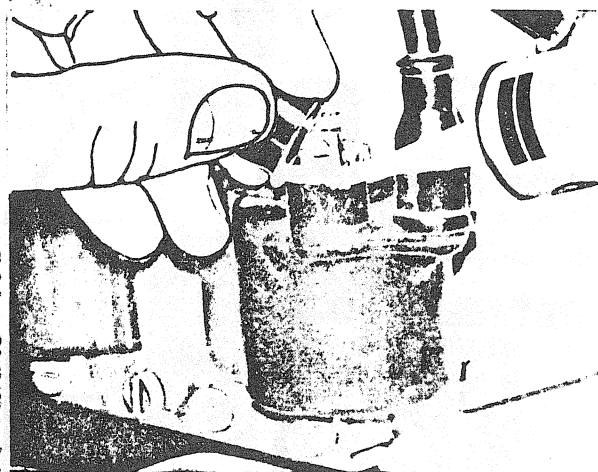

FIGURE 44
- Press the rubber caps onto the terminals (fig. 44).